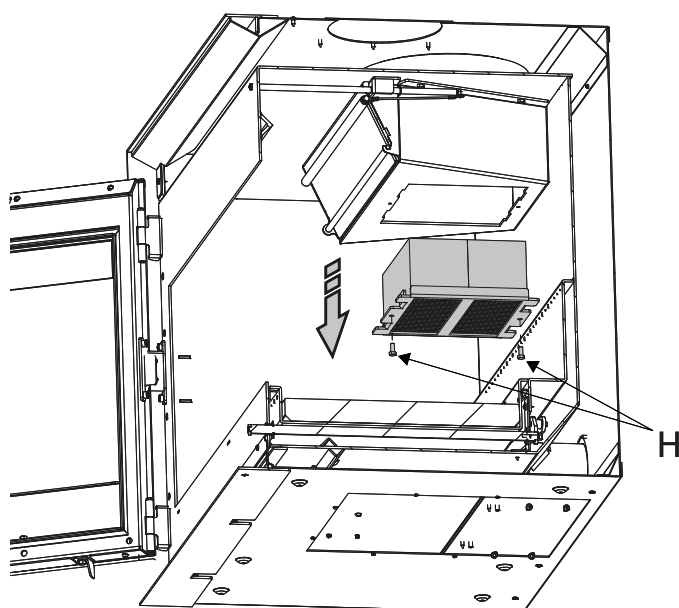

Fig. 9.2.3
- Unscrew the fixing screws H; remove support and catalyst (Fig. 9.2.3)